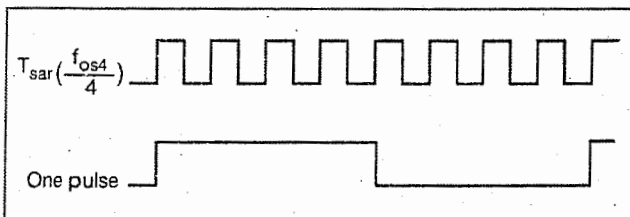

Fig. 11.5.2 : Measuring period of pulse in capture mode
- Fig. 11.5.2 shows how capture mode is used to measure the period of a pulse applied to the CCP1 pin of the CCP module in terms of the system clock period. Generally the measurement is done with respect to